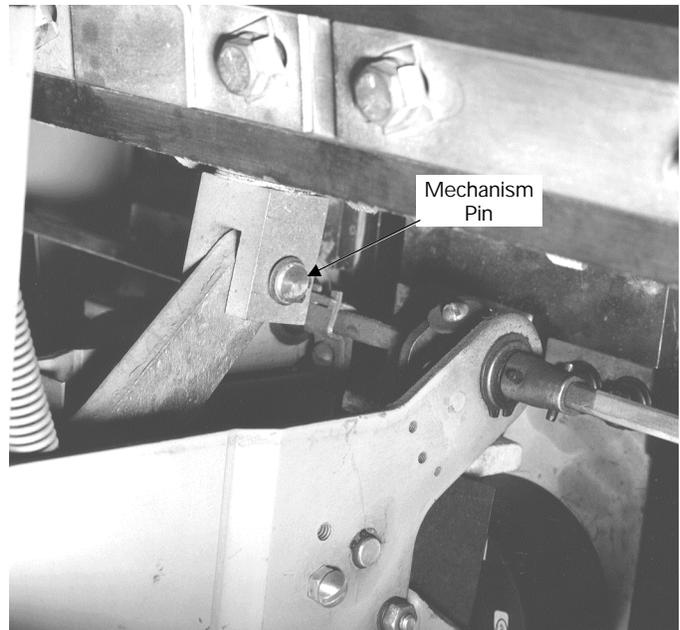

Figure 2. Crossbar mechanism pin and retaining clip.
2. Remove the spring clip on the crossbar mechanism pin, shown in Figure 2, and slide out the pin. Save the pin and clip for reinstallation.